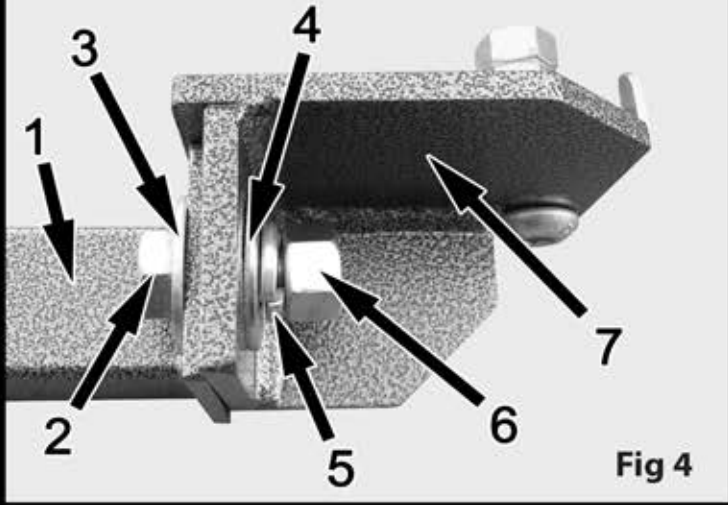

Fig 4
- Loosely assemble the Right and Left Vertical Brackets to their respective Slide Tubes (Fig 4)